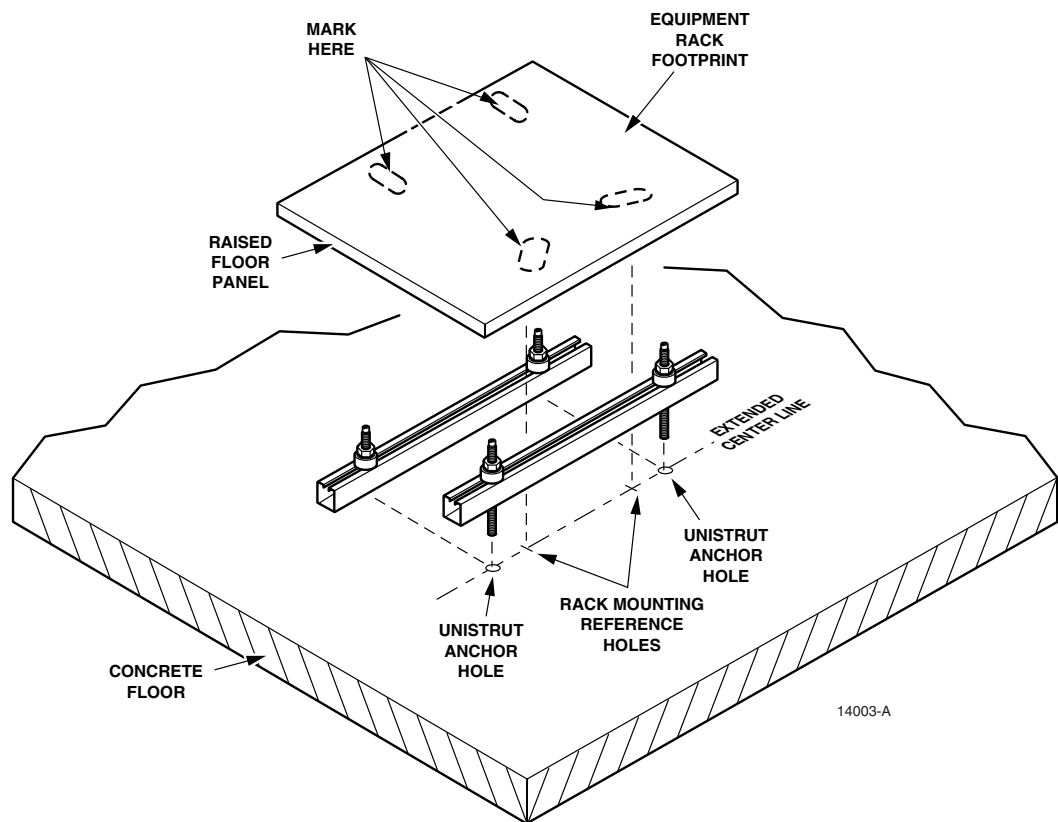

Figure 8. Rack Mounting Hole Markings
1. Position the storage bay in its designated floor location. Mark the mounting holes as shown on the equipment rack footprint. See Figure 8.
4. Mark the lower floor in line with the holes in the raised floor panels. Use a plumb line or equivalent for an accurate mark. See Figure 8.